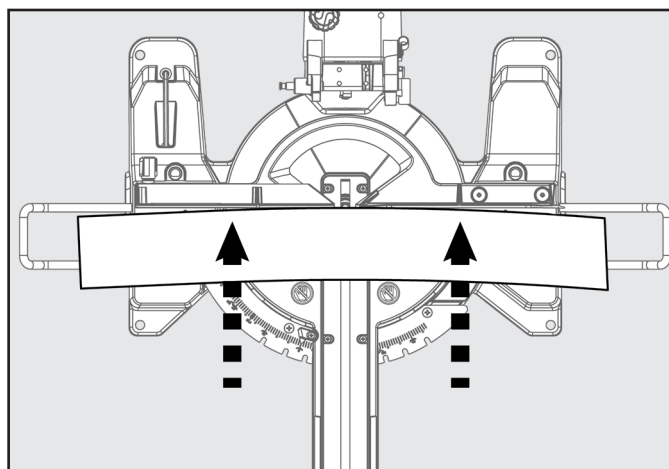

FIGURE 18
- Place the workpiece flat on the miter table with one edge securely against the fence. If the board is warped, place the convex side against the fence. If the concave edge of a board is placed against the fence, the board could collapse on the blade at the end of the cut, jamming the blade. See Figure 18.
- Only use the saw handle (A) to place your hands. DO NOT place your hands on the motor housing.
When attempting to cut warped material, the CONVEX face should be against the fence as shown in Figure 18.